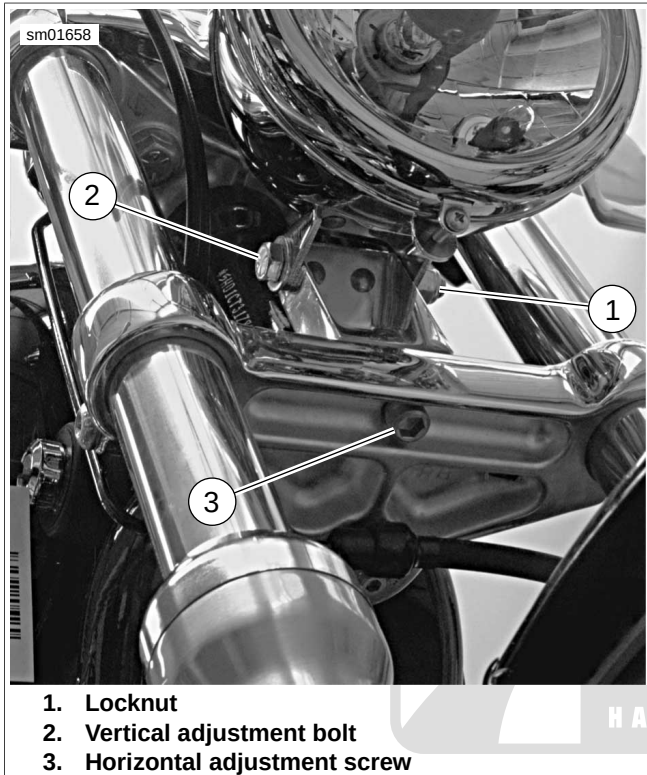

Figure 1-110. Headlamp Adjustment (XL 883C/XL 1200C)
- a. See Figure 1-110. Loosen the Allen head capscrew (3).
- a. See Figure 1-110. Loosen the locknut (1) for the vertical adjustment bolt.